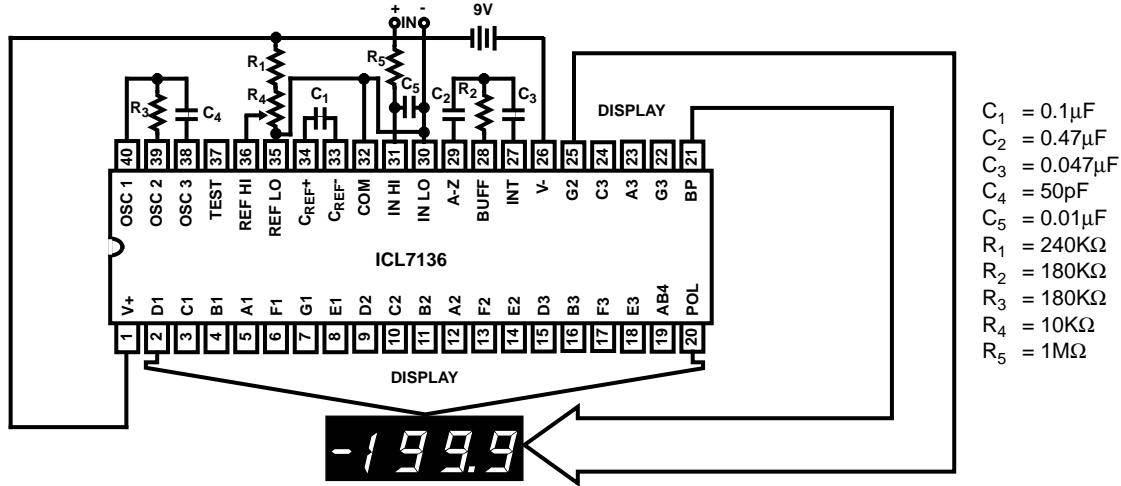
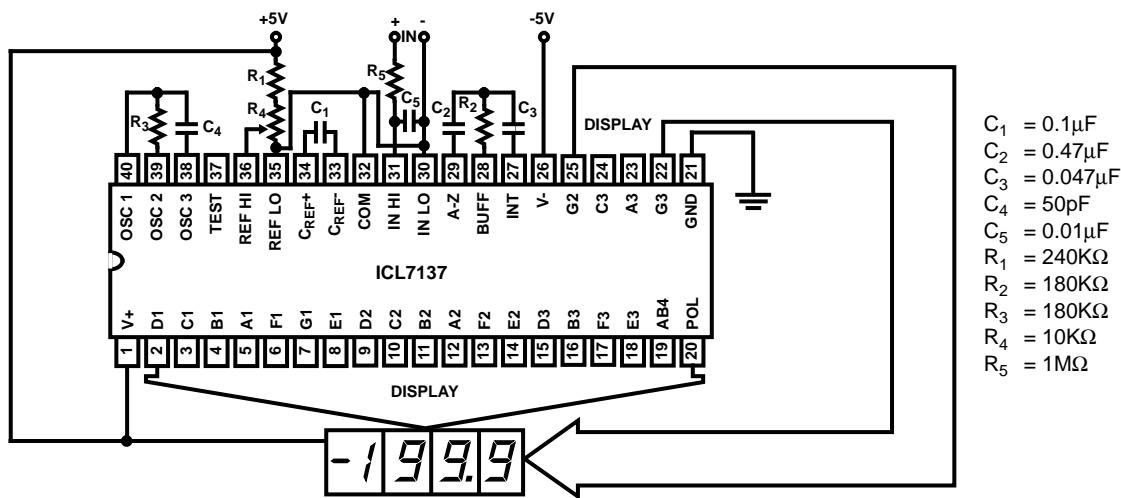

FIGURE 1. ICL7136 TEST CIRCUIT & TYPICAL APPLICATION WITH LCD DISPLAY COMPONENTS SELECTED FOR 200mV FULL-SCALE
FIGURE 2. ICL7137 TEST CIRCUIT & TYPICAL APPLICATION WITH LED DISPLAY COMPONENTS SELECTED FOR 200mV FULL-SCALE
3. Unless otherwise noted, specifications apply to both the ICL7136 and ICL7137 at  $T_A = +25^\circ C$ ,  $f_{CLOCK} = 48kHz$ . ICL7136 is tested in the circuit of Figure 1. ICL7137 is tested in the circuit of Figure 2.